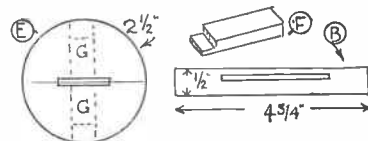

Fig. 4
From $\frac{1}{2}$ in. thick fretwood, cut two strips to size as (B) in Fig. 4. In these cut a $\frac{1}{2}$ in. wide slot 2 ins. long. It is important to cut this slot exactly $\frac{1}{2}$ in. from the upper edge. The parts are then glued to the inside face of both front and back of the box, level with the top
Cut two discs of the wood to diameter of (E) Fig. 4, and in both saw out the coin slots shown, $\frac{1}{2}$ in. wide and $1\frac{1}{2}$ ins. long. The slots must be positioned truly
central. One of these will be placed on the upper side of the lid, and to it glue disc (D) underneath. In order to glue it truly concentric with (E) it is helpful if a pencilled circle is drawn on the disc with a compass beforehand as a guide. The upper edge of (E) is then bevelled. Take the second disc (E) and draw parallel lines across its centre $\frac{1}{2}$ in. apart. Cut along these lines to make parts (G) (the rest is not required) and for a distance of $\frac{1}{2}$ in. reduce one end of each to half-thickness, as in Fig. 4. Place disc (D) in lid with (E) on top, and glue parts (G) either side of the slot in (D).